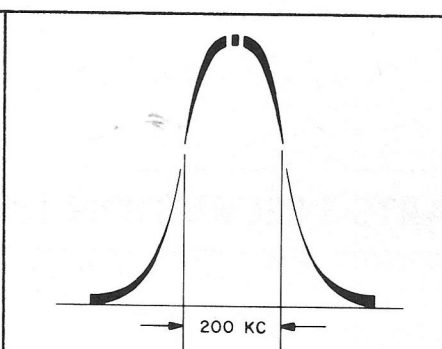

FIGURE 2.
- Connect sweep generator output lead to TP751 (front end). Adjust top and bottom cores of Z751 for maximum gain and a symmetrical response curve on the scope. Generator output must be adjusted during alignment to keep DC VTVM reading between  $-0.5$  and  $-1.5$  volts. The IF response curve should now be like that in Figure 2.